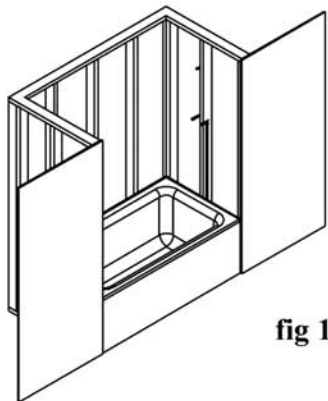

fig 1
1. Tub should be in position and secured to the stud walls in accordance with the manufacturer's installation instructions. See figure 1.